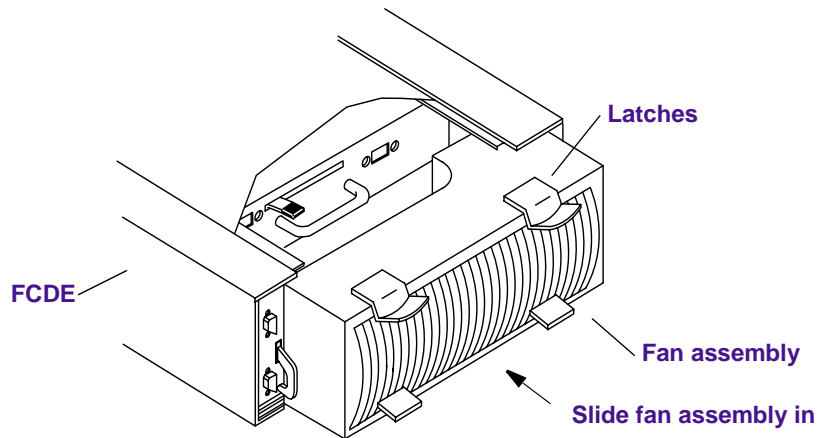

Figure 1-12 Replacing the FCDE Fan Assembly
7. Replace the fan assembly by pinching the latches together and sliding the assembly into the back of the FCDE (see Figure 1-12).